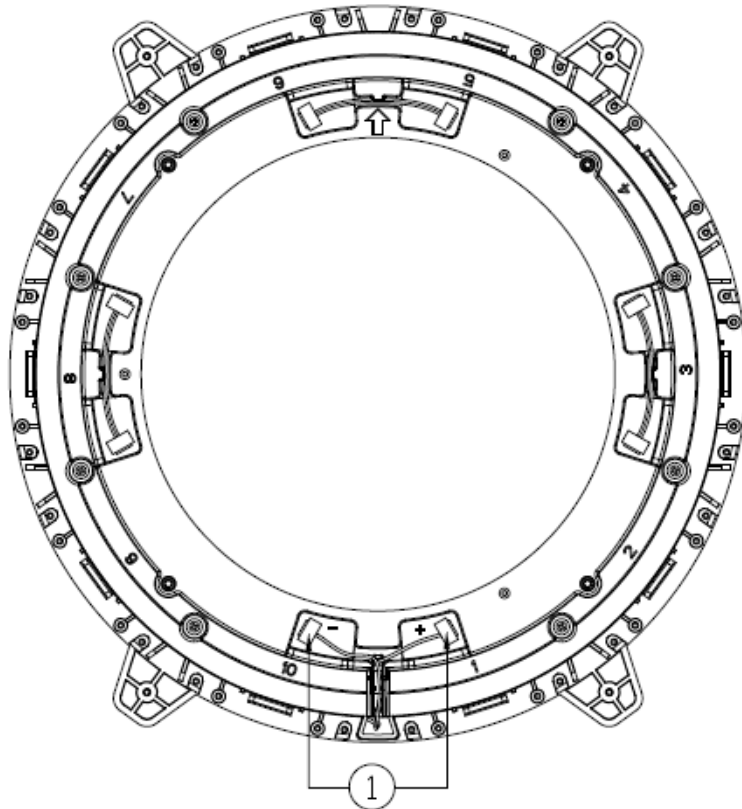
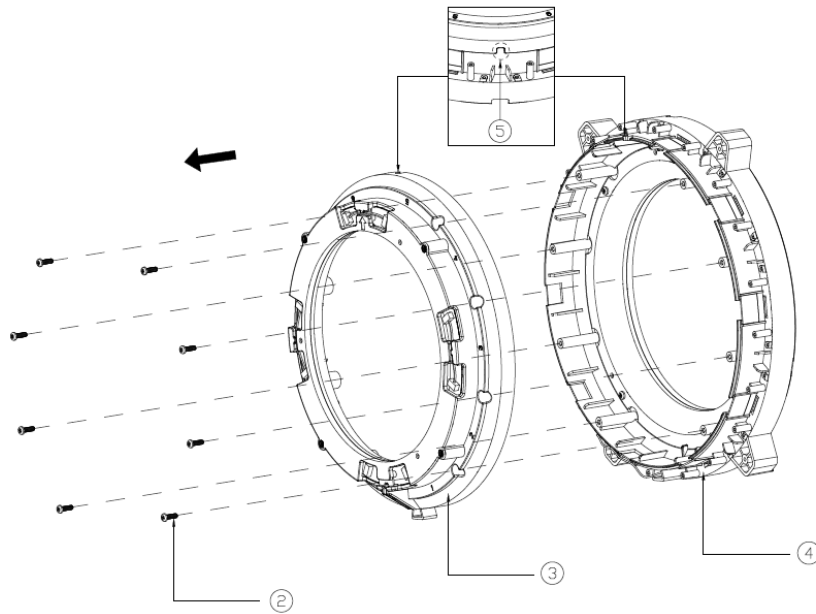

Figure 9-1
Figure 9-2
(9) Disassemble the Main Body Support-Up and the Main Body Support-Down
As shown in Figure 9-1 and Figure 9-2, remove the DuPont cable ①. Red DuPont connects to "+". Black DuPont connects to "-". Remove 8 screws ②, remove the Main Body Support-Up ④ and the Main Body Support-Down ③. The specification of the screw is the self-tapping screw, ST3*10mm.